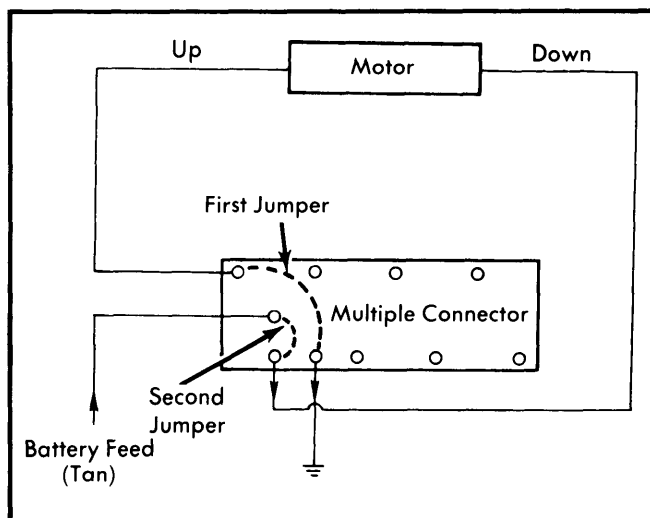

Fig. 2 Switch "DOWN" Test Circuit
1) Using two jumper wires, connect one jumper wire end to tan wire terminal and other end of jumper wire to "DOWN" terminal (see Fig. 2). Connect other jumper wire to "UP" terminal and ground (see Fig. 2).